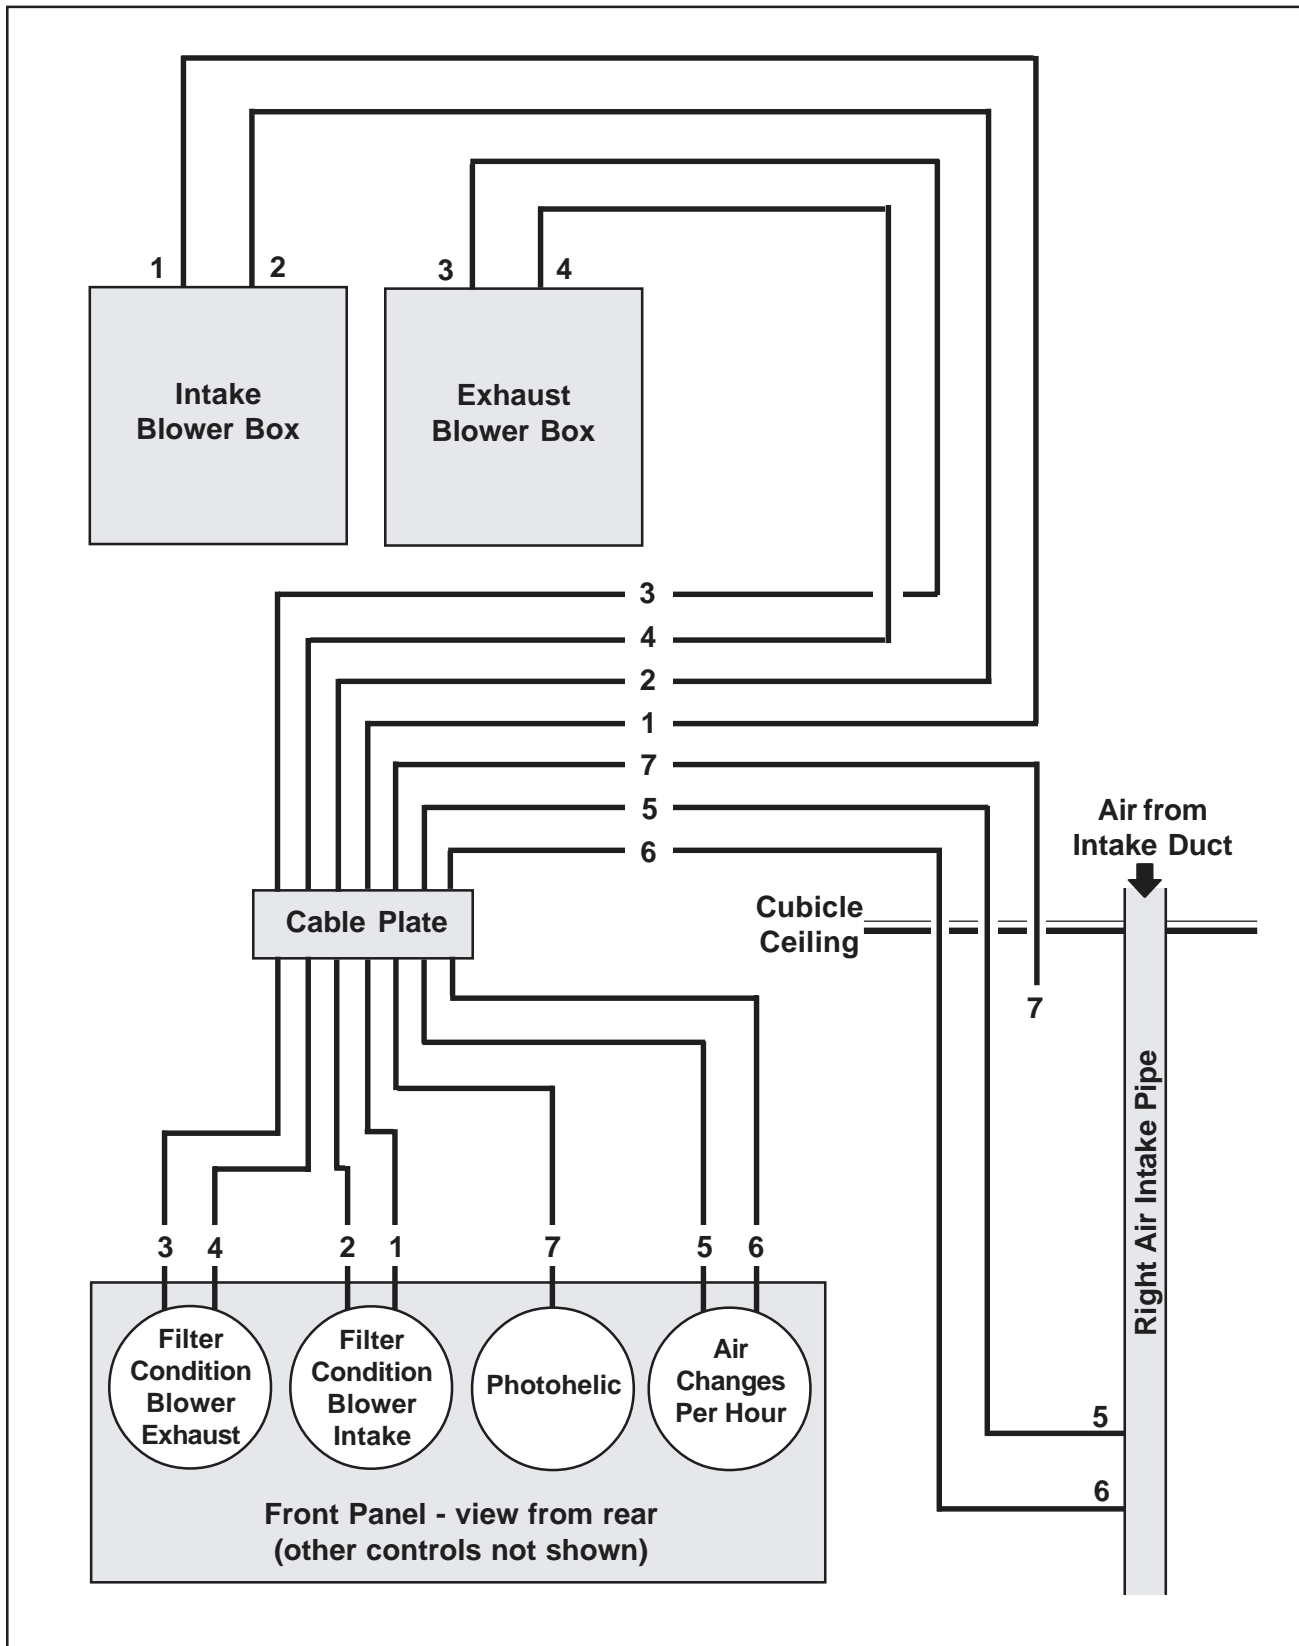

Figure 45. Piping Diagram - Isolation Cubicle Air Handling System
7. Sensor line 7 does not connect to a fitting - it just projects into the cubicle about three to four inches (Figure 45).